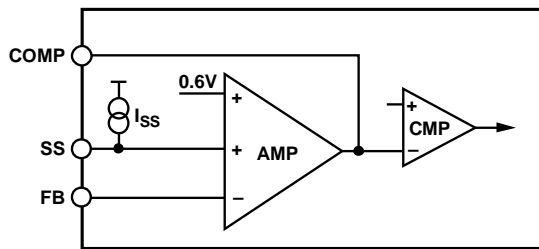

Figure 6. Soft Start and/or Tracking Pin Operation (ADP2384 Shown)
Many general-purpose buck ICs include a soft start (SS) or tracking (TRK) pin. The SS pin is intended to be used to provide a controlled inductor current at startup, and the TRK pin is intended to have the buck regulator follow an independent voltage. Often times, the pins are combined into one SS/TRK pin. In most cases, the error amplifier will use the minimum of the SS, TRK, and FB reference voltages to change the regulation point. The typical setup is shown in Figure 6.